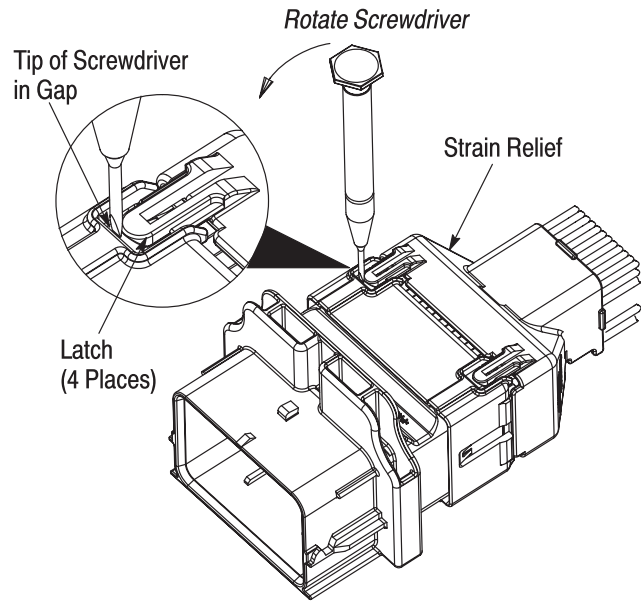

Figure 9
1. Insert the tip of a flat blade screwdriver into the gap between each latch of the strain relief and the cap connector. Refer to Figure 9.